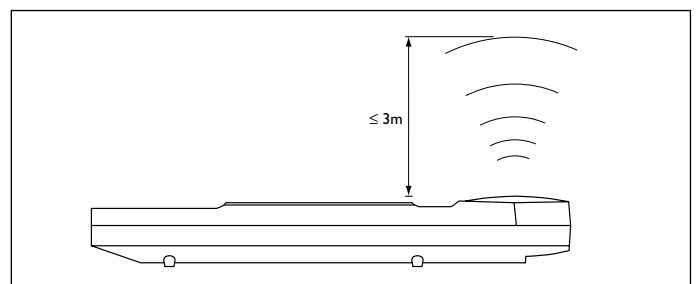

Figure 3: Radiation pattern in "teach mode"
1. When transmitting in "teach mode", the infrared radiation pattern of the IRT8040 is reduced to a narrow beam, in order to achieve selective programming of luminaires or controllers. Therefore the transmitter must be pointed at the receiver and the distance from transmitter to receiver must be less than 3 meters. (See figure 3)